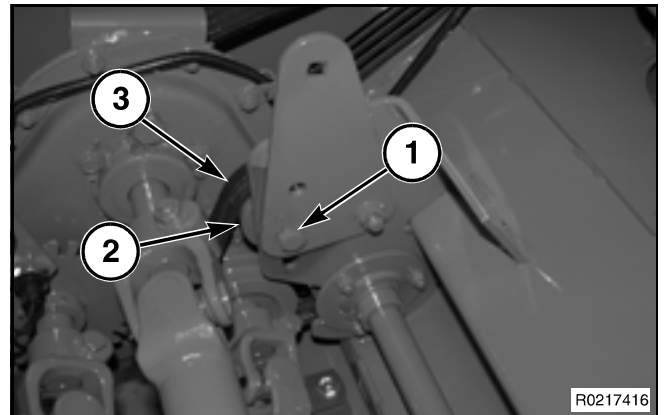

FIG. 2
FIG. 2: Loosen the bolt (1) mounting the idler assembly (2). Lower the idler assembly to remove the tension from the matched set of belts (3). Remove the belts from the idler assembly.